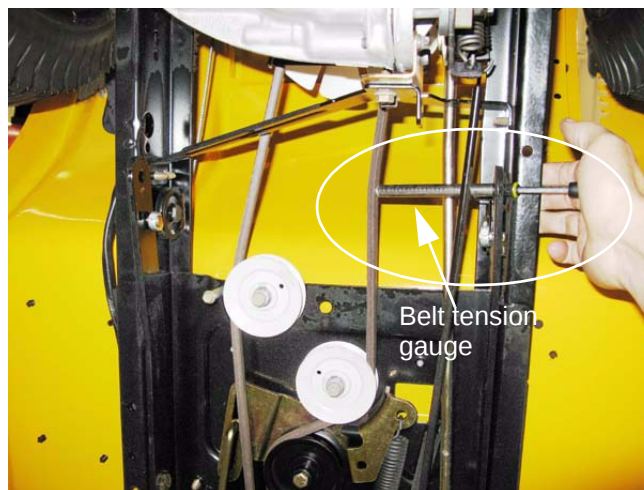

Figure 5.3
4. Check the brakes: See Figure 5.3.